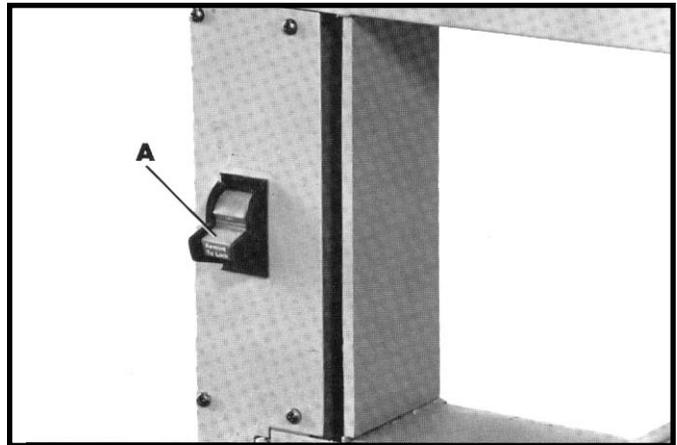

Fig. 15
The switch (A) Fig. 15, is located on the front side of the band saw. To turn the saw "ON" move the switch (A) to the up position. To turn the saw "OFF" move the switch (A) to the down position.